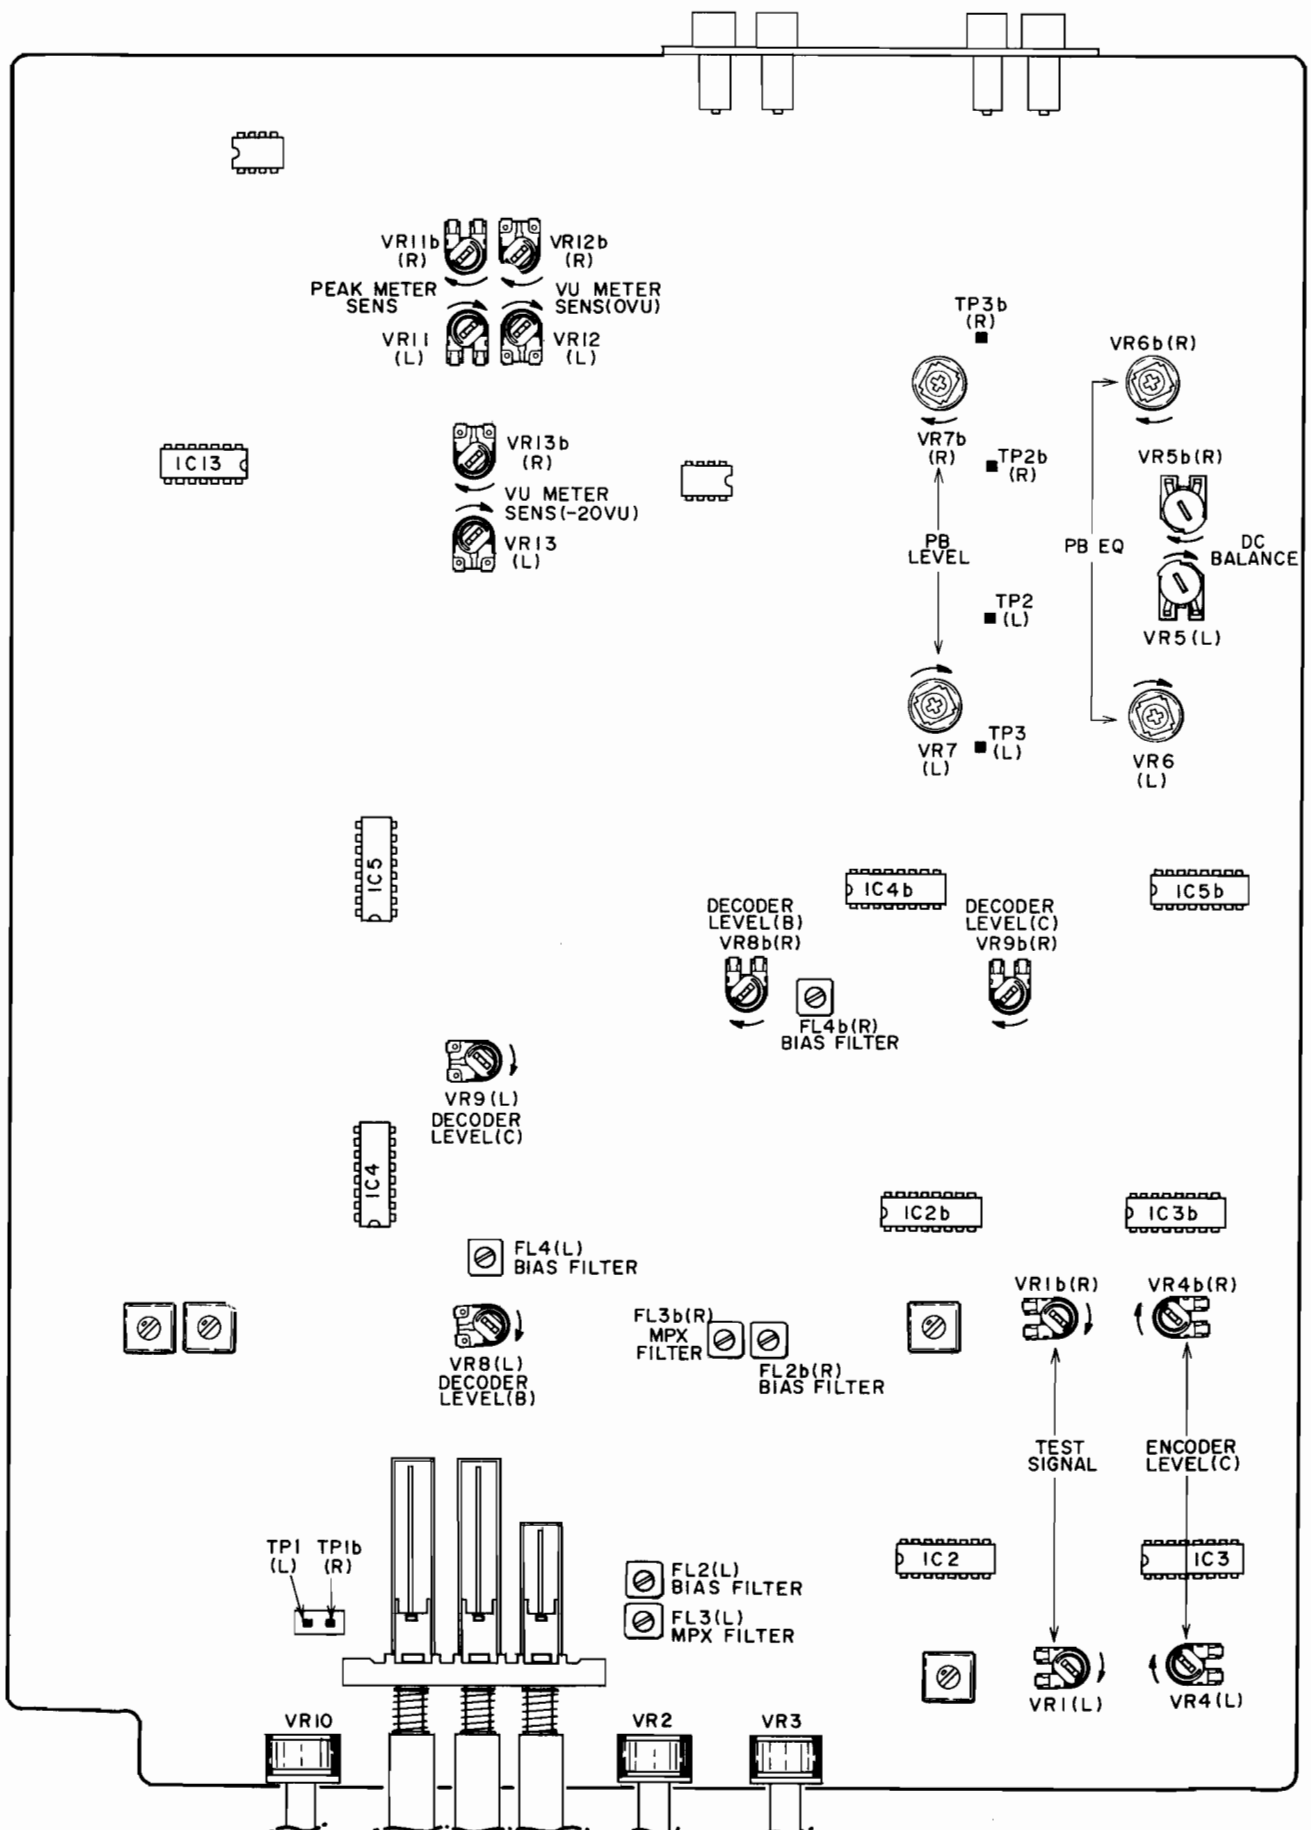

Fig. 11 Pre Amp P.C Board
1. PB EQ AMP ADJUSTMENT (Fig. 11)
2. METER ADJUSTMENT (Fig. 11)
3. DOLBY ENCODER ADJUSTMENT (Fig. 11)
4. DOLBY DECODER ADJUSTMENT (Fig. 11)
- c. With the monitor SW to SOURCE, adjust VR1 (Fig. 11 Pre Amp PCB) so that the LINE OUT level will be -25.5 ± 0.2 dBm.